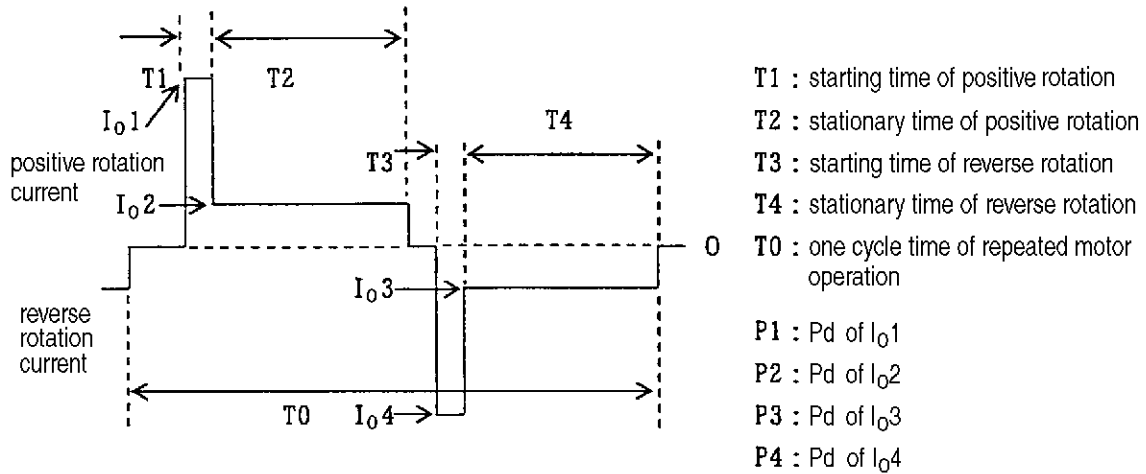

Figure 3. Timing Chart of Motor Operation
Since the starting current and the stationary current coexist in an actual motor operation, P_d cannot be obtained only from the data shown in Figure 6. Therefore, P_d is obtained assuming that the timing of the actual motor operation is a repeated operation shown in the following Figure 3.
The average power loss Pd in the hybrid IC upon an operation shown in Figure 3 can be obtained by the following equation (II):